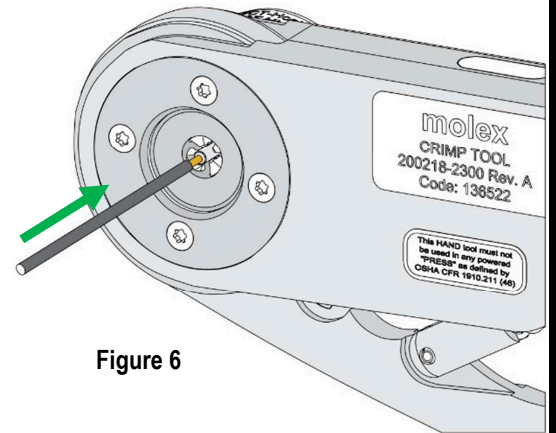

Figure 6
3. Insert the properly stripped wire end into the contact. Be sure the stripped wire end is pushed far enough into the positioner. See Figure 6.